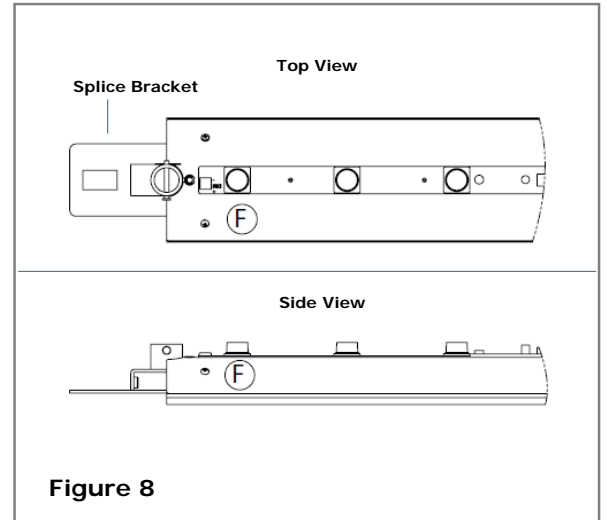

Figure 8
1. Frame segments with intermediate ends are connected together with splice brackets. One end of the splice bracket is pre-installed in an intermediate segment. **See Figure 8.**